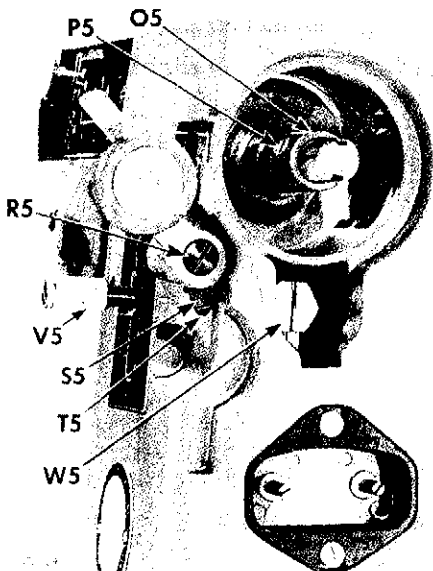

Fig. 311. Arm Shaft Counterbalance
4. Remove screw **P5** and counterbalance **O5**, Fig. 311 from arm shaft.
4. Replace counterbalance **O5**, Fig. 311.
5. Insert screw **P5** through counterbalance **O5** and hole provided for it on arm shaft, as shown in Fig. 311.
4. Remove large screw stud **W5**, Fig. 311 with its spring and washer from arm casting.
2. Replace large stud **W5**, Fig. 311 with spring and washer, so that stud holds slide to inside of arm.